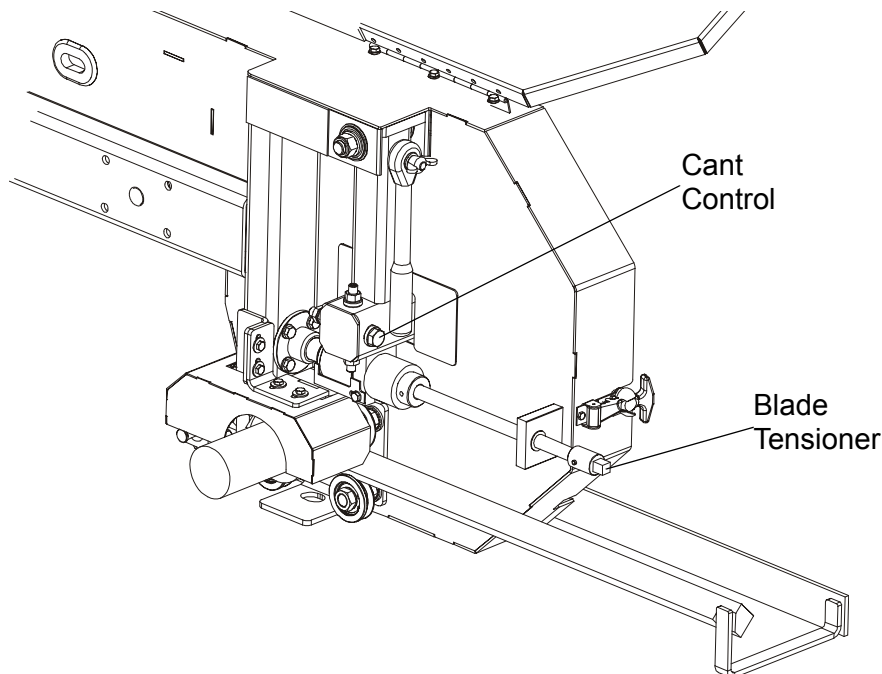

FIG. 5-1
**See Figure 5-1.** Install a blade and apply the appropriate tension. Blade tension is adjusted with the tension handle shown below.
To adjust where the blade travels on the idle-side blade wheel, use the cant control shown in **Figure 5-1**.